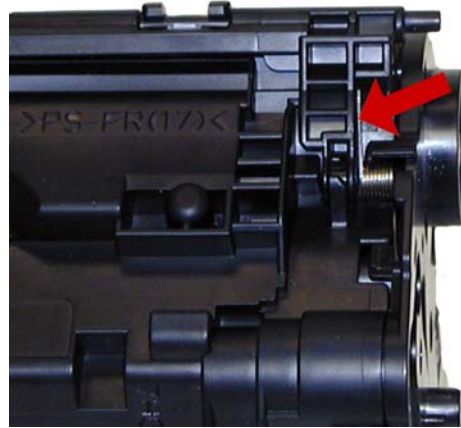

Figure 40
29) Lift up the drum cover spring tail to fit as shown on the drum cover. Install the screw into the cover. See **Figs. 40 & 41**